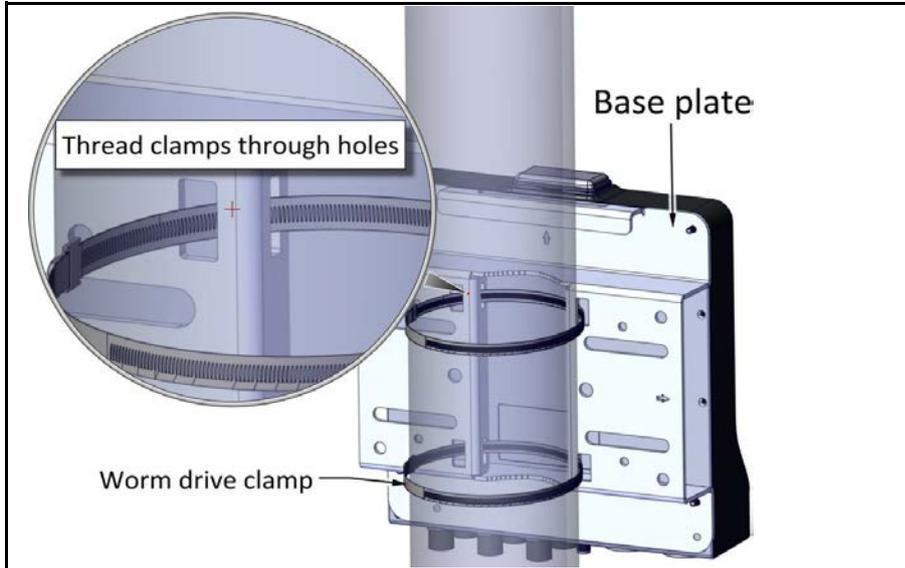
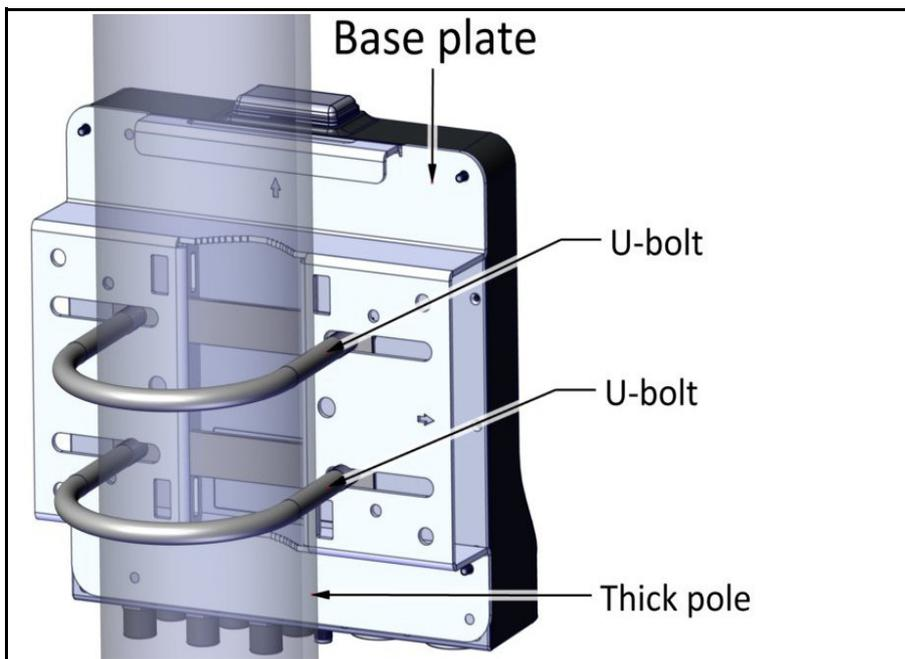

Figure 1-13: Using worm drive clamps for a thick pole
Figure 1-14: Using U-bolts for a thick pole
1. Diameter larger than 3: Use worm drive clamps (not supplied), threaded through the holes as shown in Figure 1-13, or U-bolts (not supplied), fastened using the holes as shown in Figure 1-14: